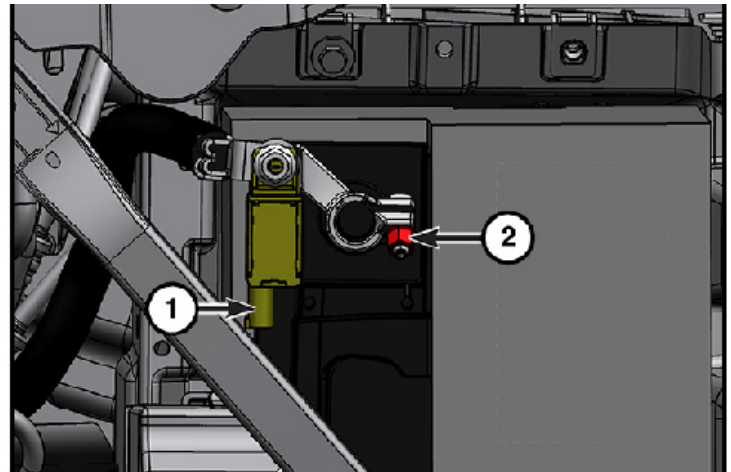

Figure 1
1. Disconnect the IBS sensor connection from sensor on the negative battery terminal. (Figure 1, #1)
2. Using a 10mm socket wrench, disconnect the negative terminal from the battery. (Figure 1, #2)